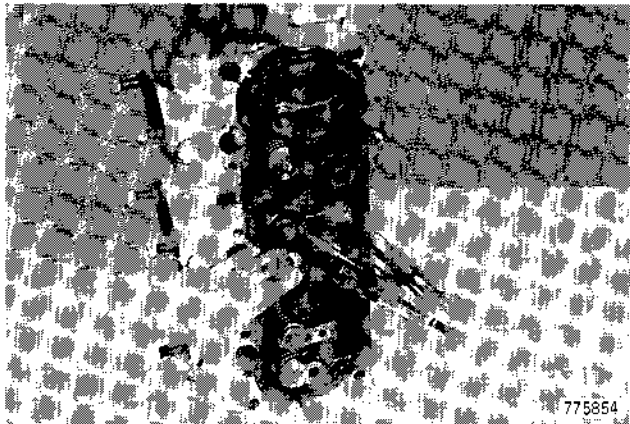

Figure 128
6. Install valve keepers, Figure 128.